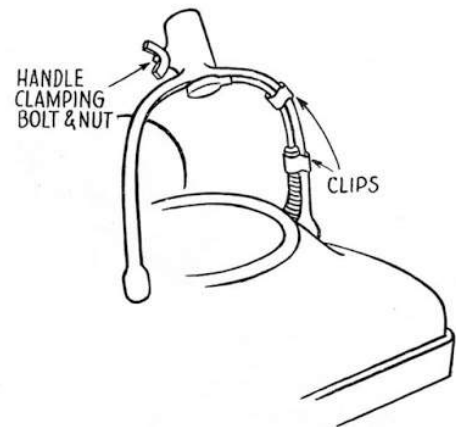

FIG. 116—Handle bail—showing handle clamping nut and bolt, motor lead cord and plug, and cord clips
1. Remove wing nut and bolt from handle bail socket and lift out **handle**. Figure 116.
1. With screw driver, pry cord clip from handle bail. Figure 116.